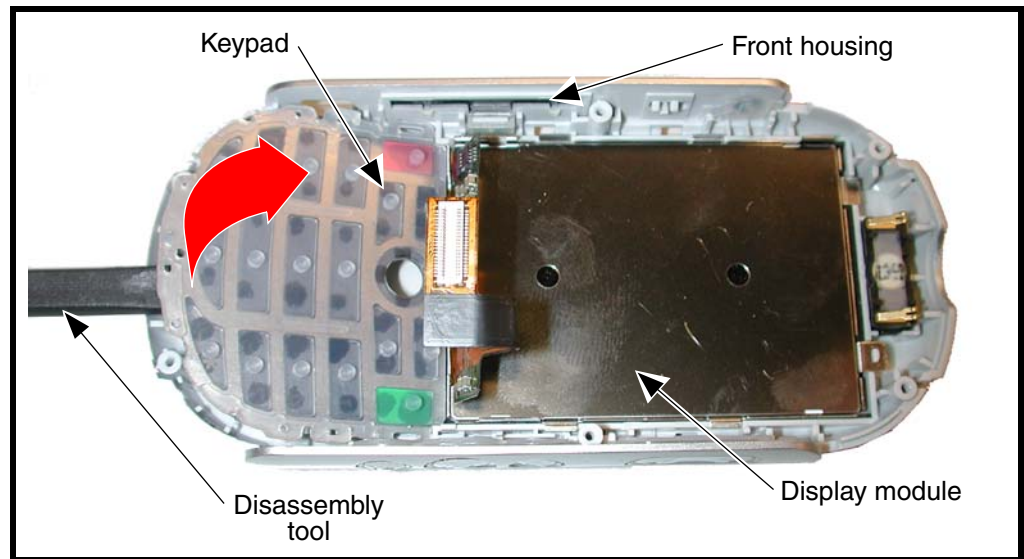

Figure 16. Removing the Keypad Assembly
3. Lift the keypad assembly away from the front housing as shown in Figure 16.